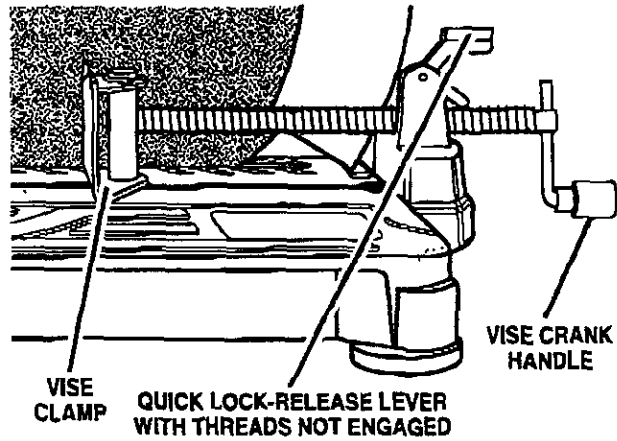

Fig. 9
See Figures 9 and 10.
See Figure 9.
- Lift up the quick lock-release lever as shown in figure 9 and pull back on vise crank handle to slide open the vise.